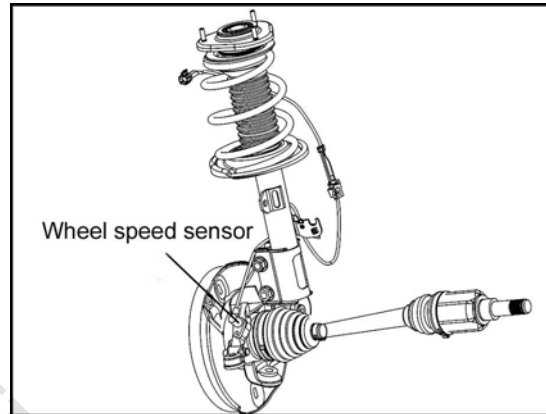

Fig. 2-9
2) As per Fig. 2-9, disconnect the wheel speed sensor connector, and remove the sensor from the bracket.